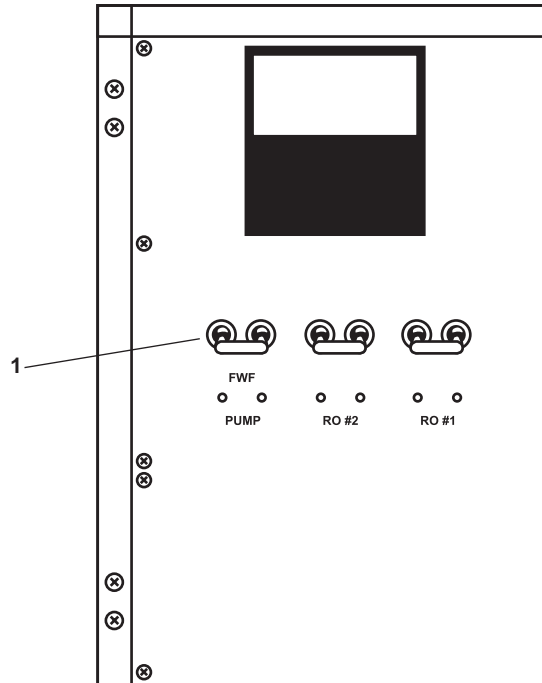

Figure 7. 24 Vdc Control Panel
1. Set to OFF the FWF PUMP circuit breaker (figure 7, item 1) at the 24 Vdc control panel. Lock out and tag out (FM 55-502).
12. Set to ON the FWF PUMP circuit breaker (figure 7, item 1) at the 24 Vdc control panel.